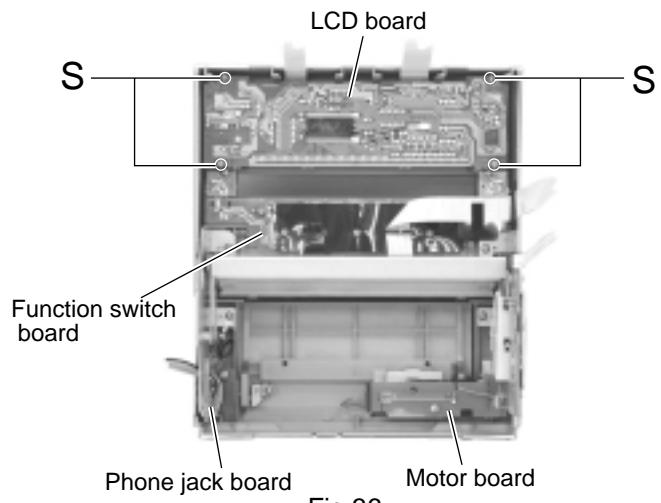

Fig.36
■ Removing the LCD board (See Fig.36)